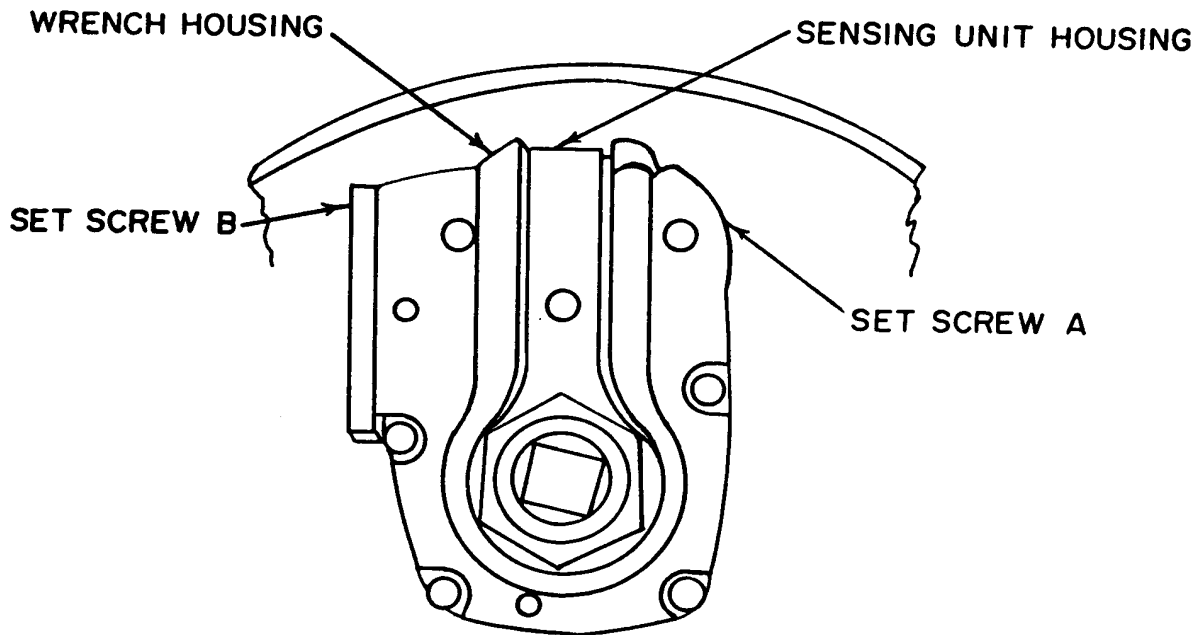

Figure 2. Calibration adjustments.
(5) If TI indication error is not the same in both cw and ccw directions, adjust TI as indicated in (a) through (l) below.
- (c) Back of f set screws A and B (fig. 2) at least three turns each.
- (j) Check spacing between sensing unit housing on reaction adapter and wrench housing (fig. 2). Sensing unit housing should be approximately centered in wrench housing.